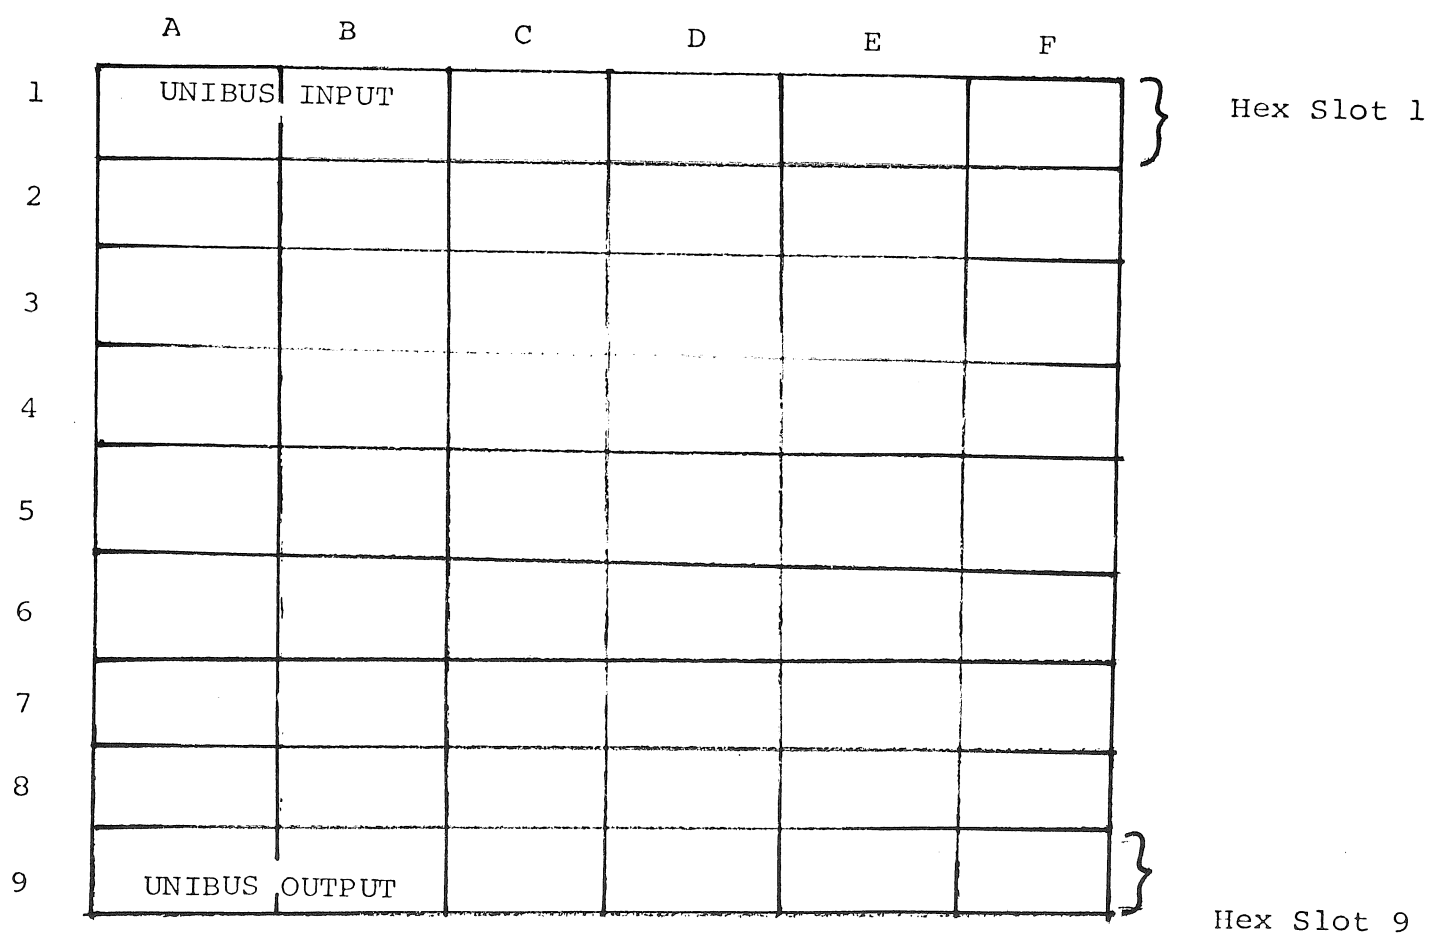

FIGURE 2-2
2.1.1.2 Double System Units (see Figure 2-2) - This System Unit consists of a nine by six connector matrix. This unit has nine hex slots for module mounting.